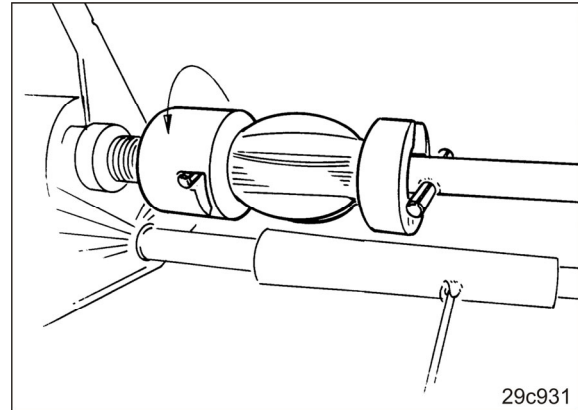

Fig. 199
3. Deactivate the left side of the seeding shaft (Fig. 199)